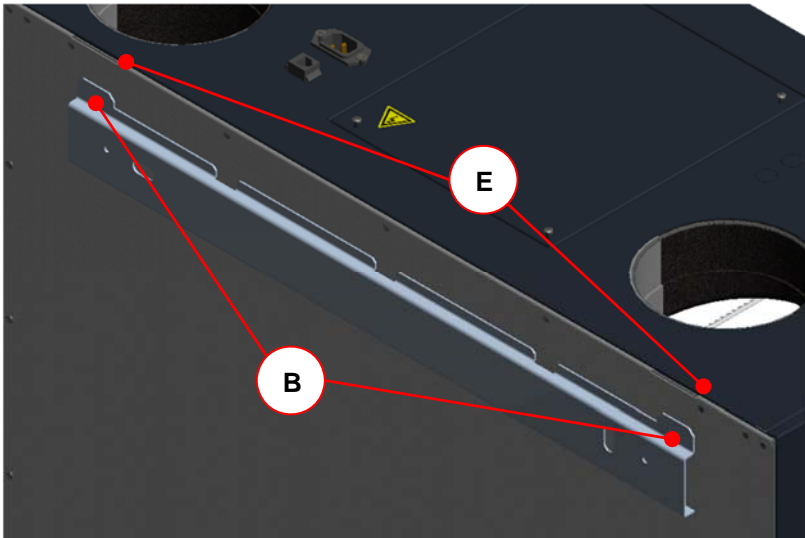

Fig. 12: Hooking the unit into the fastening sheet
- Place the FOCUS unit on the floor stand so that the lugs of the fastening sheet hook into the slots in the lock seam at the bottom of the unit's rear cover. See Fig. 12.